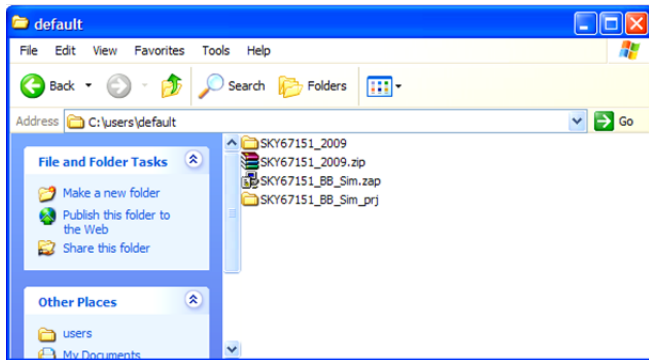

Figure 10. Folder View of Model and Project
- 4) Un-archive the SKY67151_BB_Sim.zap project folder in the same directory. Now there should be four folders in the directory—two for ADS projects, and two for the BlackBox models, Figure 10.